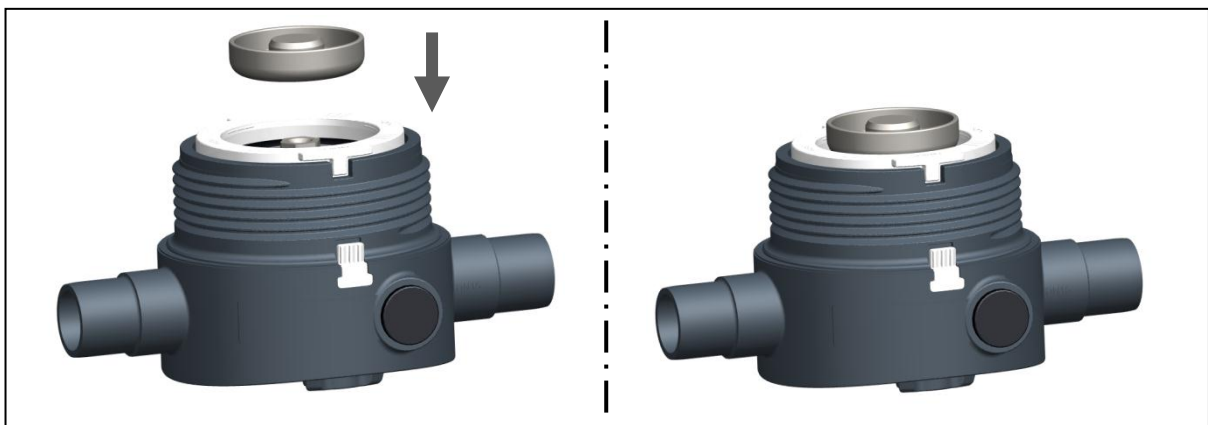

Fig. 14
- Put the Pressure piece on the cartridge, see Fig 14